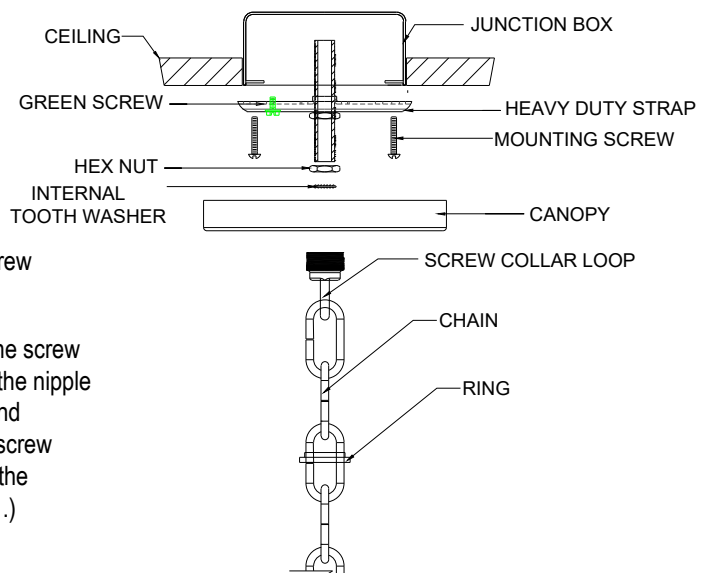

FIGURE-01
- Attach the heavy duty strap unto the junction box (the green screw should face the floor). (SEE FIGURE-01)